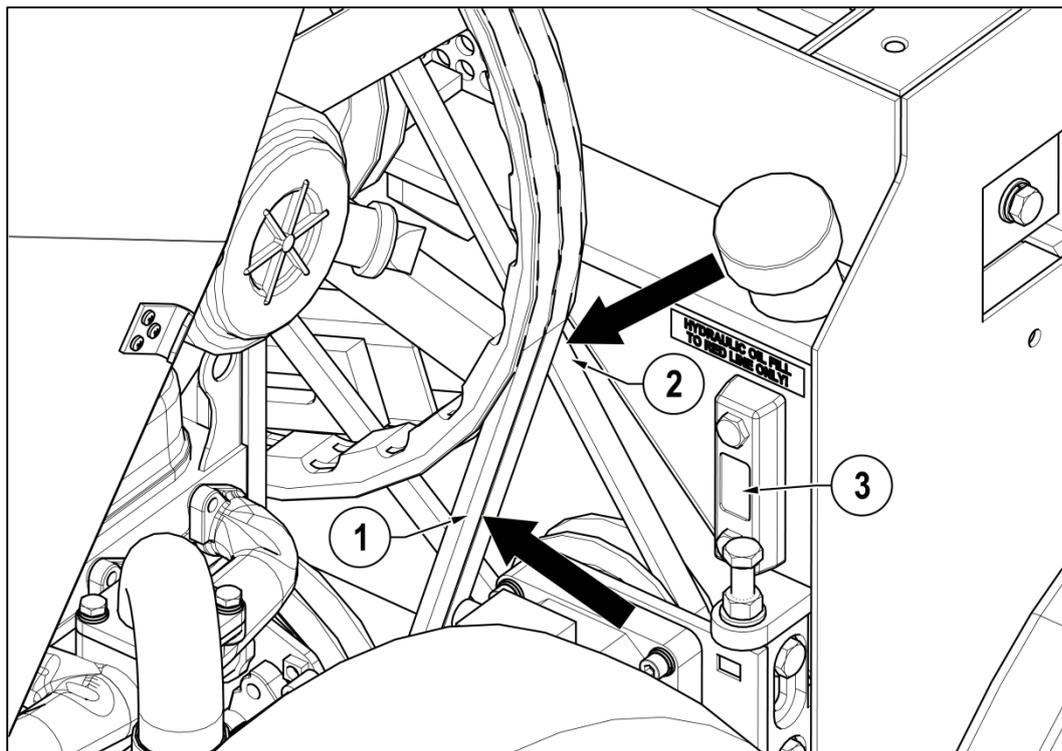

Figure 21
- Check drive belt tension and adjust as necessary. See Figure 16, Figure 17 & Figure 21.
All drive belts are located under the engine cover as shown in Figure 16 and Figure 17 and tension checked at arrows shown in Figure 21. Check and set tension as follows:
3. Turn adjuster nut or screw to tension belt until 4.5Kg force at the belt longest centre span deflects by 6mm (see Figure 21). Can be approximated by firmly gripping belt between finger and thumb and twisting. The belt should not be able to be rotated more than 90°.